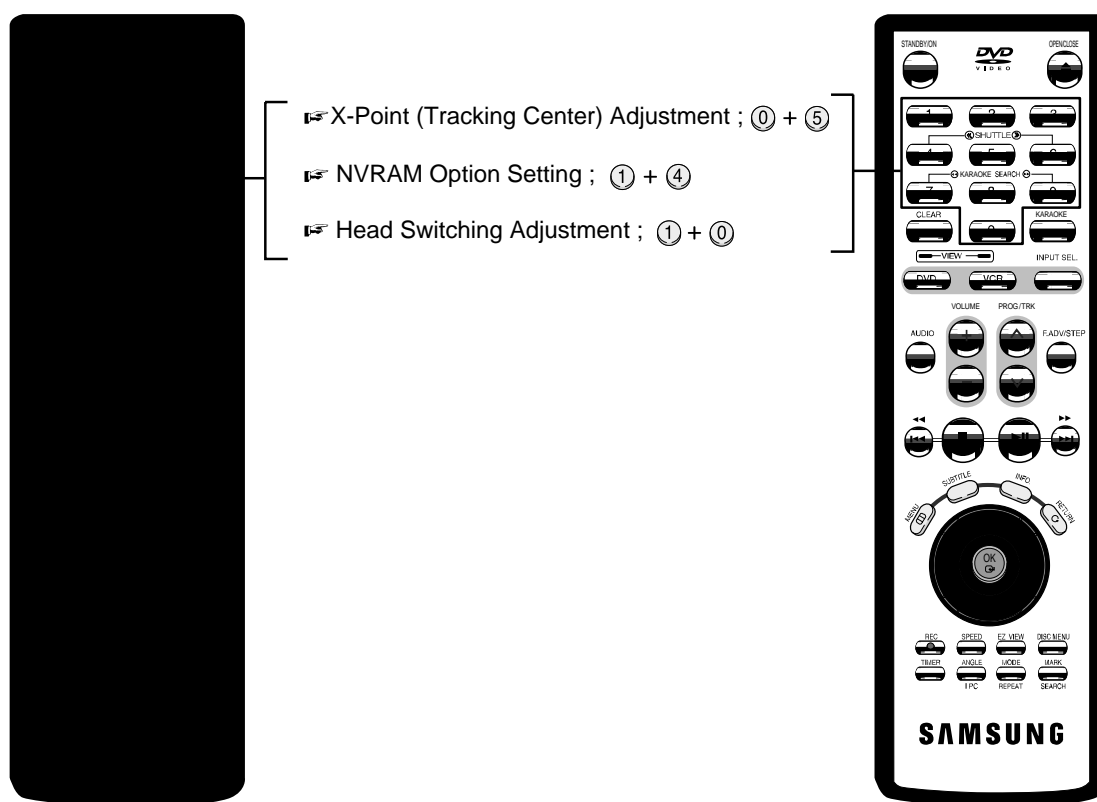

Fig. 6-1
- 3) Press the “1, 0” buttons remote control adjustment operates automatically. (See Fig. 6-1)